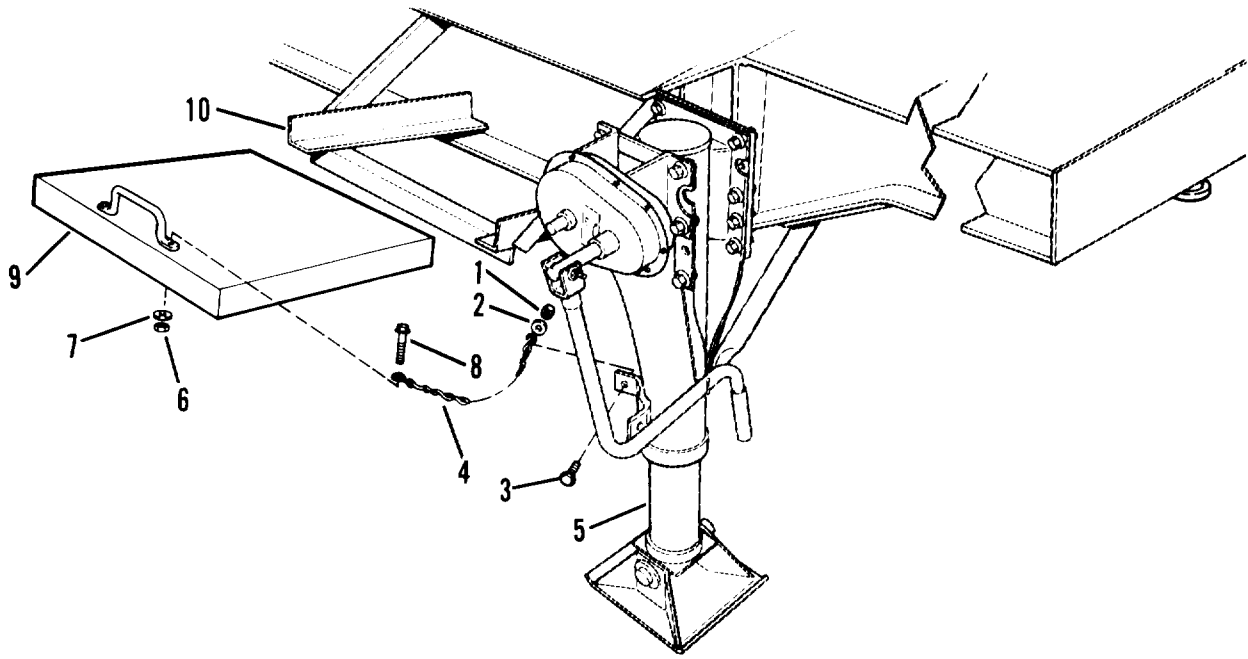

Figure 4-54. Float pad
- (1) Remove nut (1, figure 4-54), washer (2) and screw (3) from end of chain (4) attached to landing leg (5).
- (2) Remove nut (6), washer (7) and screw (8) from float pad (9). Remove chain (4).
- (3) Remove float pad (9) from bracket (10).
- (1) Install float pad (9, figure 4-54) in bracket (10).
- (2) Position chain (4) on float pad (9) and secure with screw (8), washer (7) and nut (6).
- (3) Position other end of chain (4) on landing leg (5). Secure chain (4) with screw (3), washer (2) and nut (1).